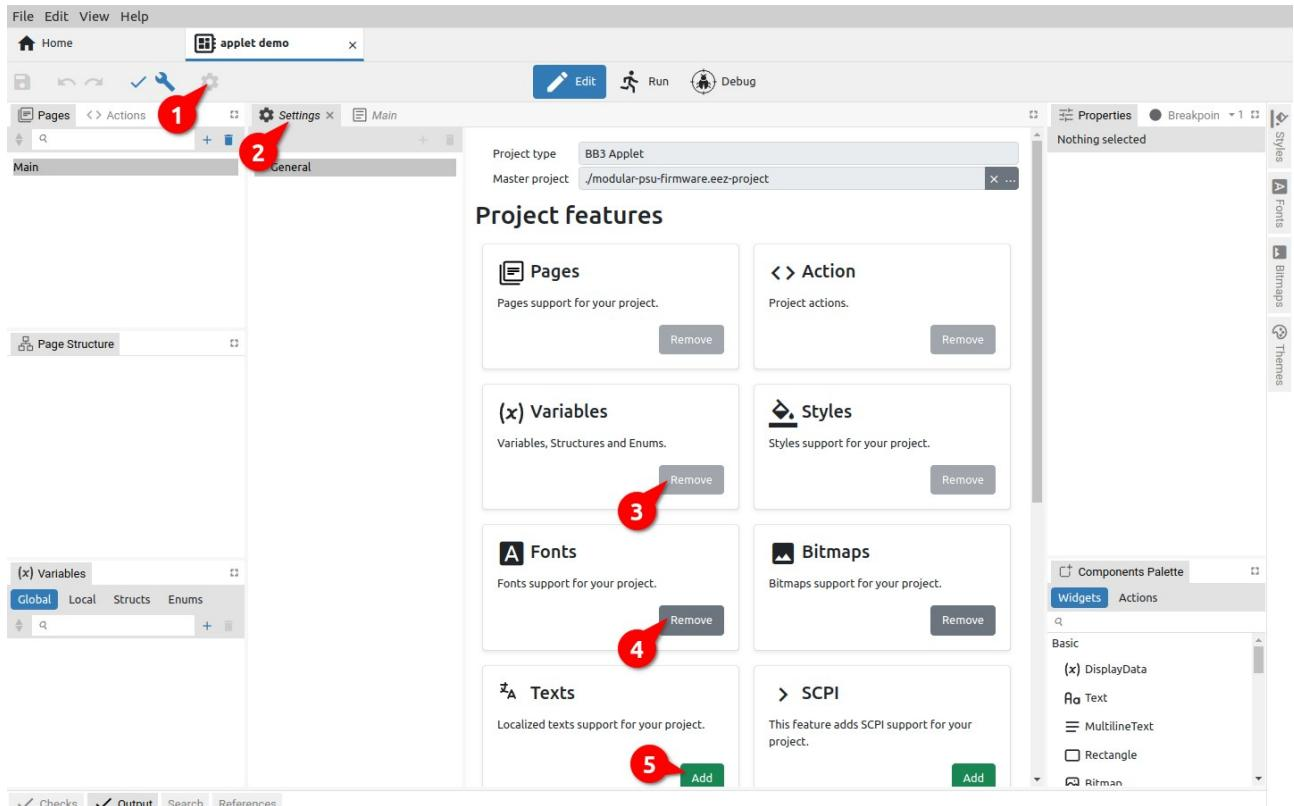

Fig. 60: Newly created project settings
The basic project settings set by the New project wizard can be seen by clicking on the *Settings* option (1) when the project *Settings* will open in a new tab (2) as shown in Fig. 60.